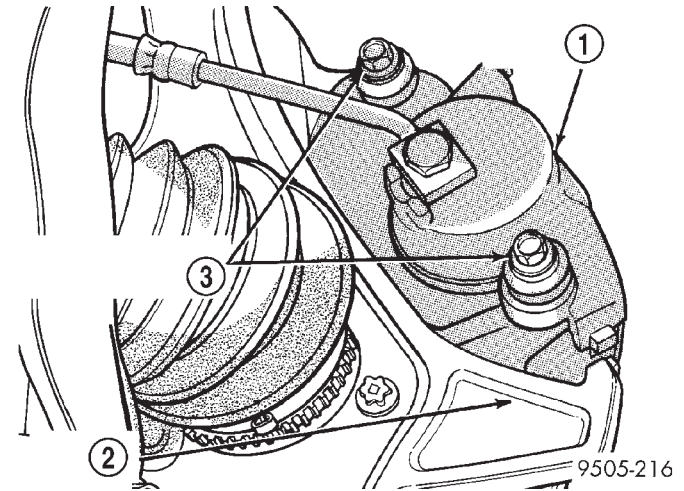

Fig. 81 Removing Caliper Guide Pin Bolts
(3) Slightly pry the piston back into the bore of the disc brake caliper. The piston is to be pryed back by inserting a soft tool (such as a trim stick) between the inboard brake shoe and the rotor and prying against the inboard brake shoe. This will force the piston back into the caliper.
(4) Remove the 2 brake caliper to steering knuckle guide pin bolts (Fig. 81).
(8) Install the caliper guide pin bolts (Fig. 81) and tighten to a torque of 22 N·m (16 ft. lbs.).
(9) Install the wheel and tire assembly.
(10) Tighten the wheel mounting stud nuts in proper sequence until all nuts are torqued to half specification. Then repeat the tightening sequence to the full specified torque of 135 N·m (100 ft. lbs.).
(11) Remove jackstands or lower hoist.
(12) Check brake fluid level.